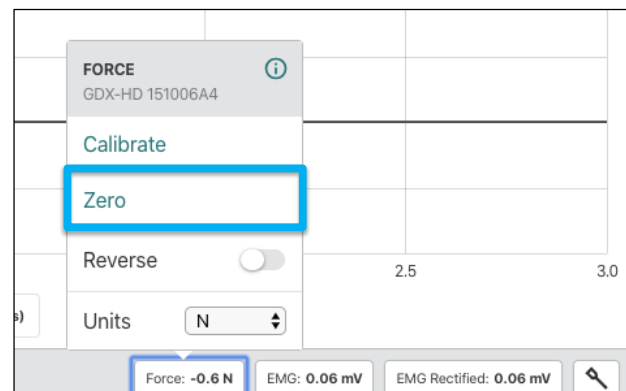

Figure 13. Select "Zero" on the Force Button to Zero the Dynamometer.
3. Practice Holding and Gripping the Hand Dynamometer (Fig. 13)